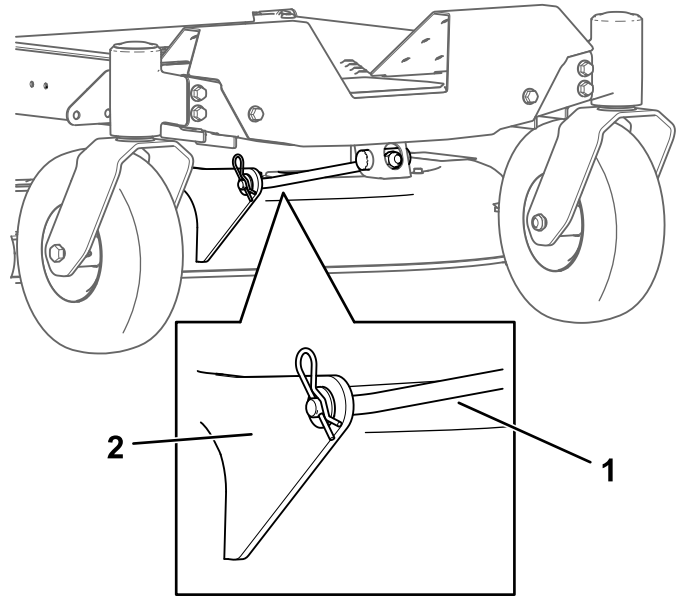

Figure 65
4. Remove the hairpin cotter from the front support rod, and remove the rod from the deck bracket (Figure 65).
8. Attach the front support rod to the mower deck with the clevis pin and hairpin cotter (Figure 65).